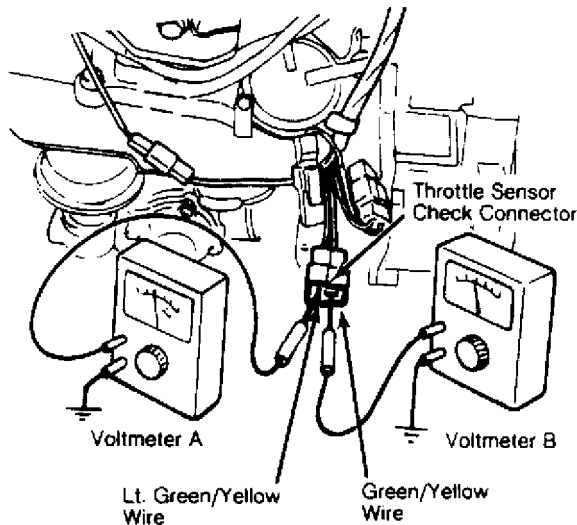

Fig. 2: Testing Throttle Sensor
3) Connect positive lead of other voltmeter to Green/Yellow wire terminal of throttle sensor connector. Connect negative terminals of voltmeters to good ground. See Fig. 2.
6) Adjust timing of current flow to voltmeter "A" in Fig. 2 by turning throttle sensor adjusting screw.